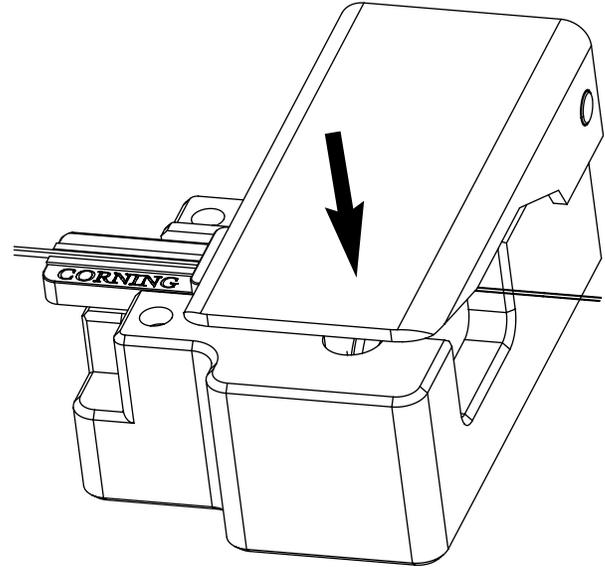

Figure 3-21
**3.6-7** While gently holding the handler in position, with the coating butted against the elastomeric pad, slowly press the cleaver's handle down as far as it will go (Figure 3-21).